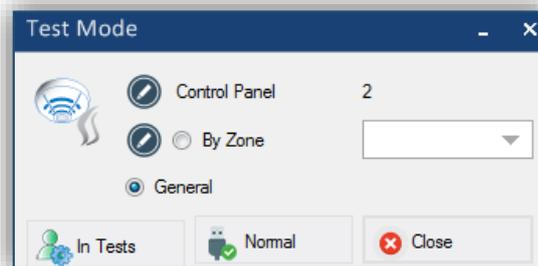

Figure 57. Activation menu of Test Mode in a control panel.
- The Figure 57 shows the menu to activate the Test mode of a control panel. To access the